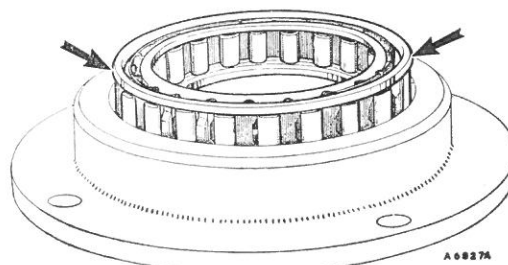

Fig. Fa.56
- (6) Reassemble the thrust bearing, intermediate spring ring, first gear free-wheel (lip facing outwards, see Fig. Fa.56), spring ring, and refit the circlip.